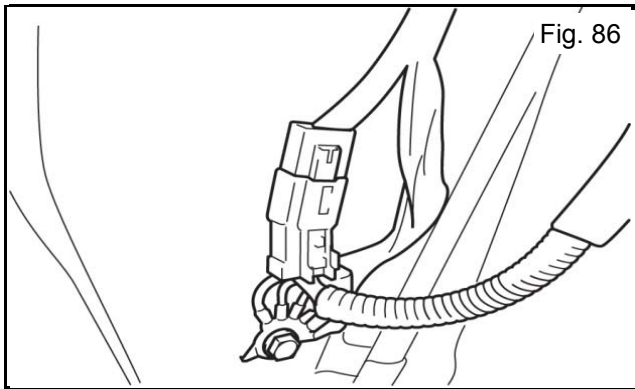

Fig. 86
a) Disconnect the LH side 4-pin tail lamp connector as shown in Fig. 86.